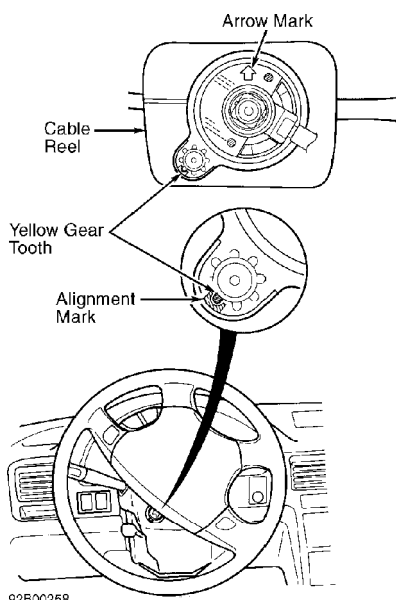

Fig. 3: Locating Cable Reel Alignment Marks (Typical)
2) Cable reel is located under steering wheel, in upper steering column. See Fig. 3. Remove dashboard lower cover and knee bolster. Remove air duct. Disconnect cable reel connector from SRS main harness at base of steering column, then remove connector holder.
4) To install, reverse removal procedure. Before installing steering wheel, center cable reel by rotating it clockwise until it stops and then counterclockwise approximately 2 turns. Arrow mark should face up and Yellow gear tooth should be aligned with mark. See Fig. 3.